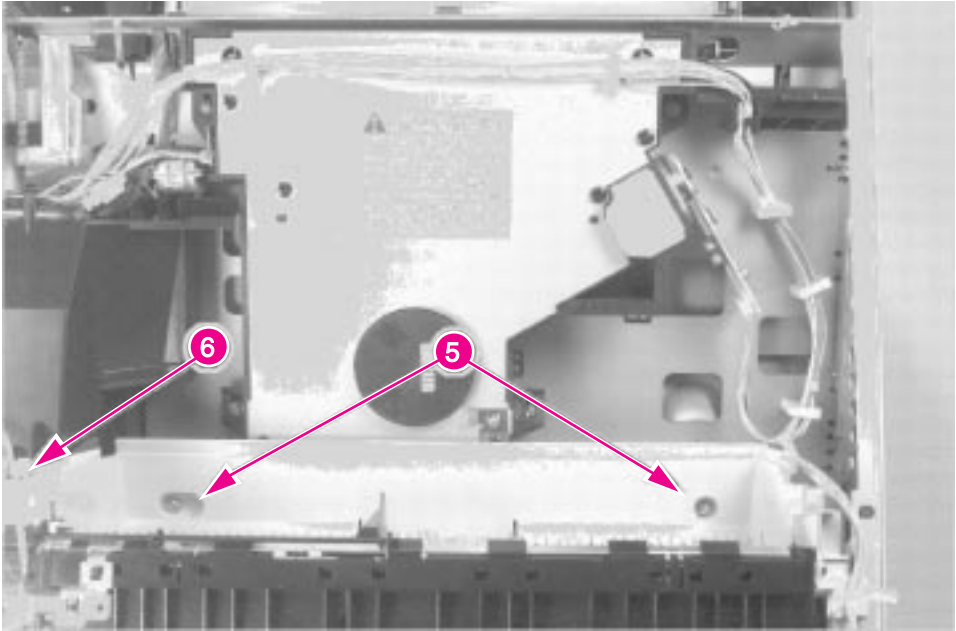

Figure 6-12 Delivery Unit (2 of 2)
- 6 Remove 2 screws (figure 6-12, callout 5) and 1 screw (figure 6-12, callout 6).